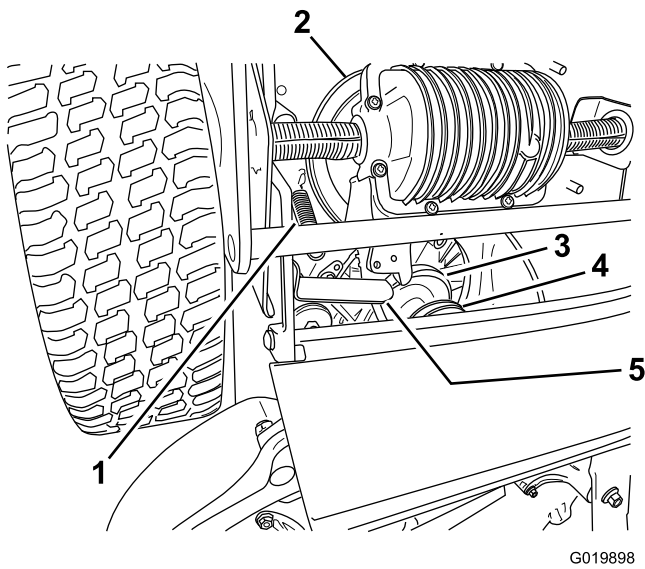

Figure 37
- Move the tab forward (Figure 37).